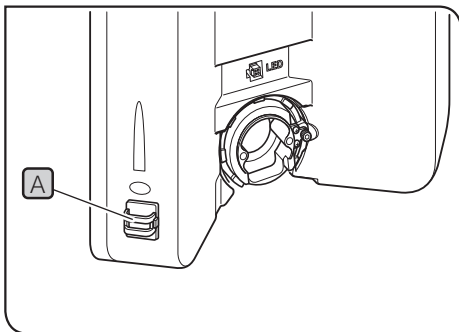

Fig.45
**4 Attaching the halogen lamp socket (Fig.45 to 48)**
Installing the U-LS30ADP LS30 adapter (Fig.45)
- 4 Pass the lamp cable through the cable holder **A**. (Fig.45)